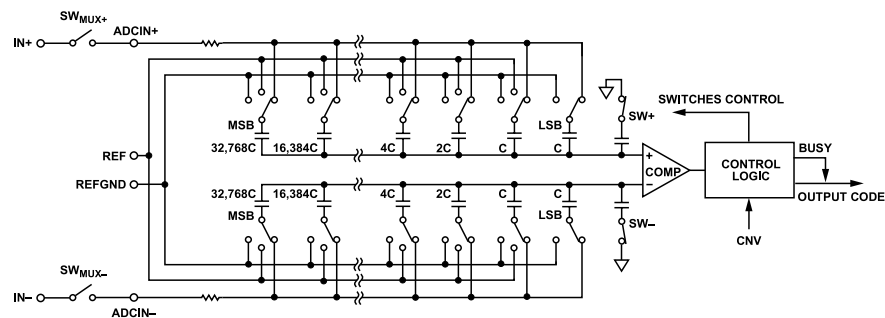
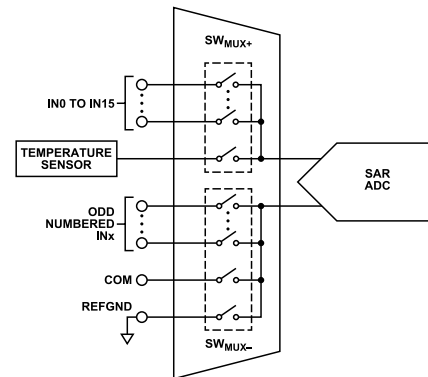
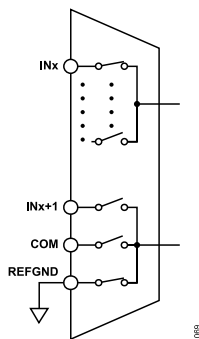

Figure 63. ADC Simplified Schematic
Figure 67. Multiplexer Simplified Schematic
Figure 68. INx Paired with REFGND
The AD4695/AD4696 contain an SAR-based ADC core that utilizes a charge redistribution digital-to-analog-converter (DAC) to quantize the applied input voltage to an output code. Figure 63 shows a simplified schematic of the AD4695/AD4696 SAR ADC core.
The analog inputs and the temperature sensor are connected to the capacitor array inputs (ADCIN+ and ADCIN-) via the internal low crosstalk multiplexer, represented by SW_{MUX+} and SW_{MUX-} in Figure 63. The multiplexer switches are controlled by the internal channel sequencing logic and are updated once per conversion (see the Multiplexer section and the Channel Sequencing Modes section).
A low crosstalk analog multiplexer routes the signals from the analog input pins to the ADC core inputs. The impedance of the analog inputs is modeled as the parallel combination of the pin capacitance (C_{PIN}) and the network formed by the series connection of R_{IN} and C_{DAC} . R_{IN} represents the ADC input series resistance and the multiplexer switch resistance and is typically 240 Ω . C_{DAC} represents the ADC sampling capacitive DAC shown in Figure 63, and is typically 60 pF.
The AD4695/AD4696 contain a flexible, low crosstalk analog multiplexer for selecting from the 16 analog inputs and internal temperature sensor and routing them to the inputs of the 16-bit, pseudo differential SAR ADC core. Figure 67 shows a simplified schematic of the internal multiplexer. The SW_{MUX+} and SW_{MUX-} switches shown in Figure 63 and Figure 67 represent the multiplexer switches that route the selected channel to the ADC inputs (labeled $ADCIN+$ and $ADCIN-$ in Figure 63). SW_{MUX+} and SW_{MUX-} are break-before-make and are controlled by the internal channel sequencing logic (see the Channel Sequencing Modes section).
The multiplexer allows flexible analog input channel configuration. The SW_{MUX-} position is user programmable, and can be assigned to any of the pins shown in Figure 67 (see the Channel Configuration Options section).
The channel configuration settings include pin pairing assignments and signal polarity modes. The pin pairing options assign the position of SW_{MUX-} for each position of SW_{MUX+} and determine which signal is routed to the negative side of the SAR ADC core ($ADCIN-$ in Figure 63). The signal polarity modes configure the $ADCIN-$ voltage range. Figure 68 shows the pin pairing and voltage ranges for the different channel configuration options.
- ▶ Figure 68, IN0 to IN15 paired with REFVND
When the temperature sensor is selected, the multiplexer $\text{SW}_{\text{MUX}+}$ switch (see Figure 67) selects the temperature sensor output and its $\text{SW}_{\text{MUX}-}$ switch selects REF_GND, and the SAR ADC core samples V_{TEMP} to generate a corresponding output code. The analog-to-digital conversion of the temperature sensor output utilizes the same transfer function as an analog input configured in unipolar mode with $\text{OSR} = 1$ (see the Transfer Function section).